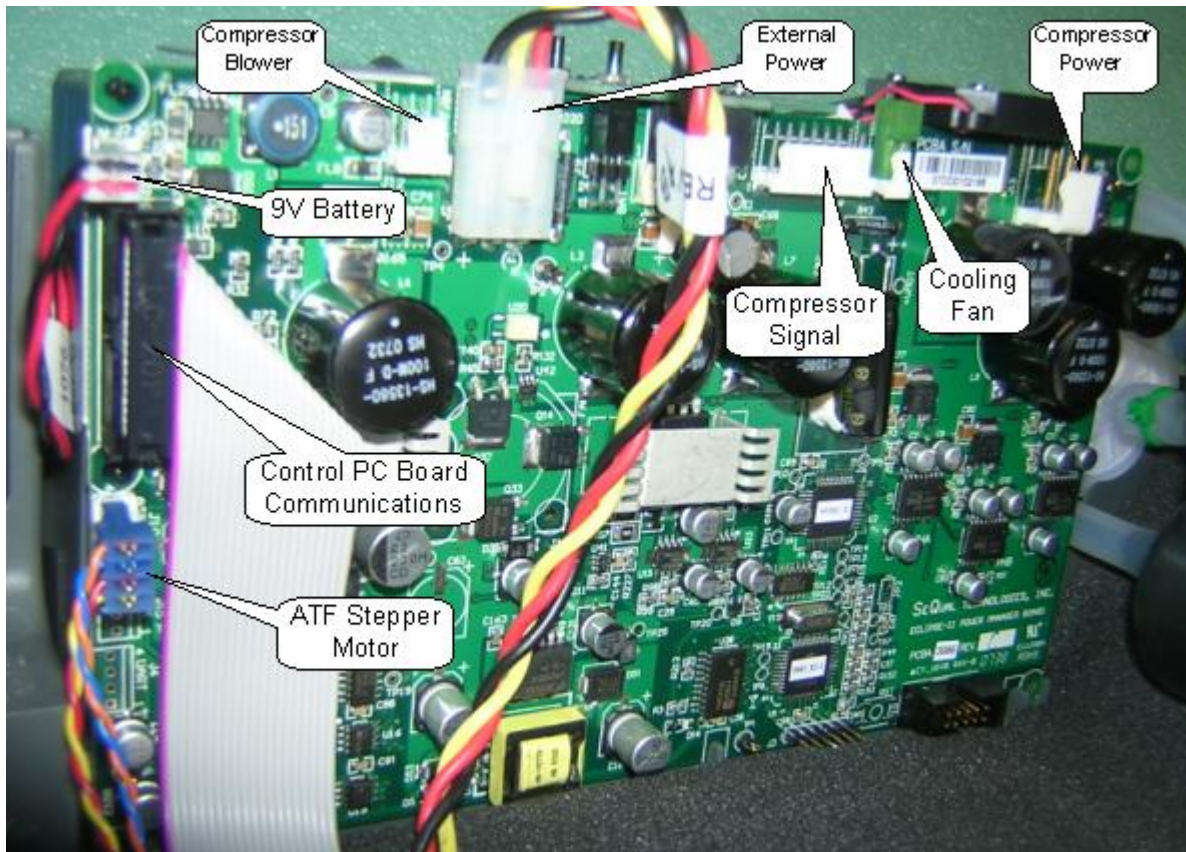

Figure 47: Power Manager PC Board Connector Diagram.
7. Position the new Power Manager PCB 1" out of the unit case as shown in Figure 47. Gently push the Compressor Box away from the Power Manager PCB by 1/8". Connect the 2 wire harnesses and the ribbon cable. Position the Power Manager PCB into the slots on the Unit Case.